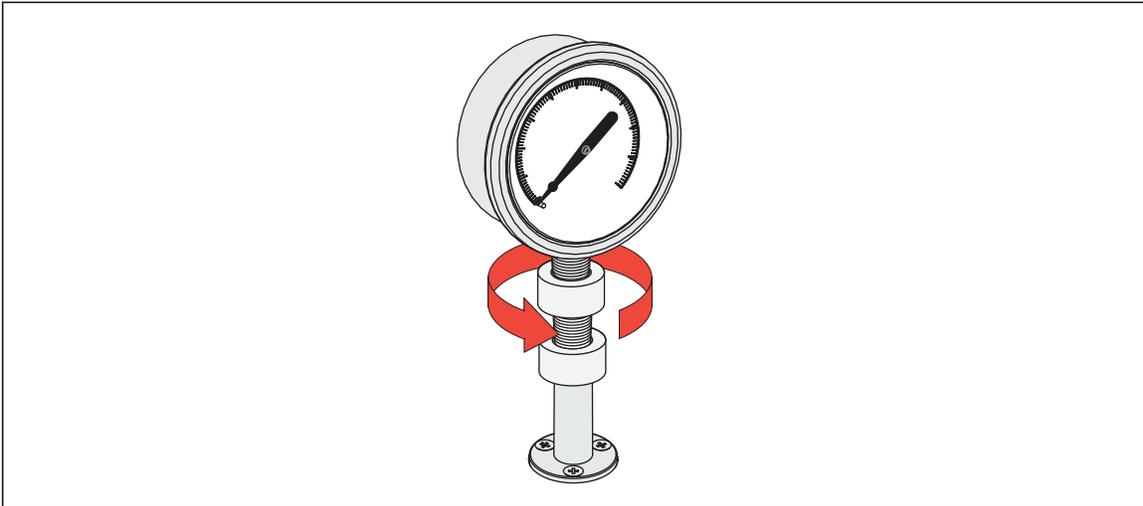

Figure 12. Connect Assembly to Test Port
3. To adjust the position to face forward, hold the gauge adapter and turn the instrument COUNTER-CLOCKWISE, so that it faces forward, see Figure 12.